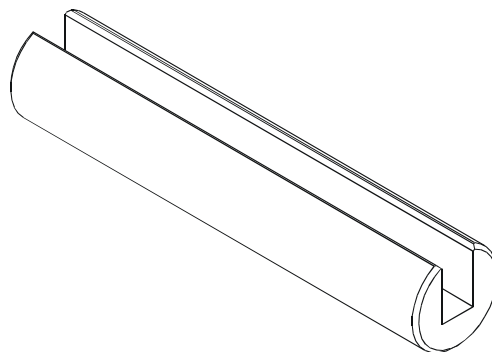

Figure 24. Wobblestick parking aid, isometric view.
When not in use carefully pull out the wobblestick and secure it using the wobblestick parking aid, see figure 24 below.
1. Carefully pull out the wobblestick and secure it using the wobblestick parking aid, see figure 24 on page 45. Otherwise it may cause serious damage when being sucked in due to pressure reduction.